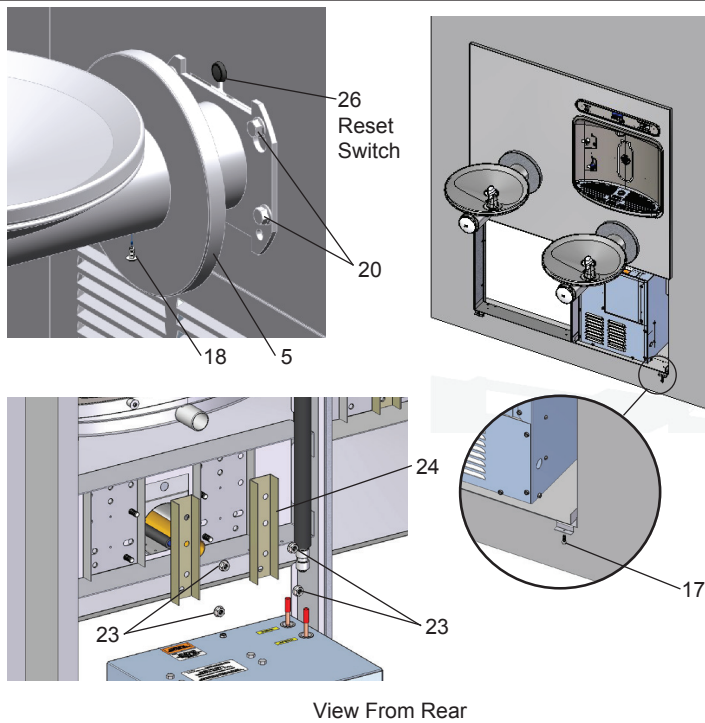

Figure 4 - Fountain Installation
- 7. Install** reset switch for bottle filler (Fig. 4). Snap the switch into position after locating wires through slot. Wrap up the excess cord.
8. **Install** fountains with (8) 5/16-18 HHMS & (8) 5/16-18 nuts (provided) (Fig. 4). Connect the 1/4" water lines from each fountain to the remaining openings on the tee at the remote chiller (cut lines to fit as needed).
16. **Install** the bottom panel, tighten screws (Fig. 4).
- 1) To access the program button, remove #8-32 screw, pull back cover plate on lower fountain arm (Fig. 4). Reset button is located above fountain arm.